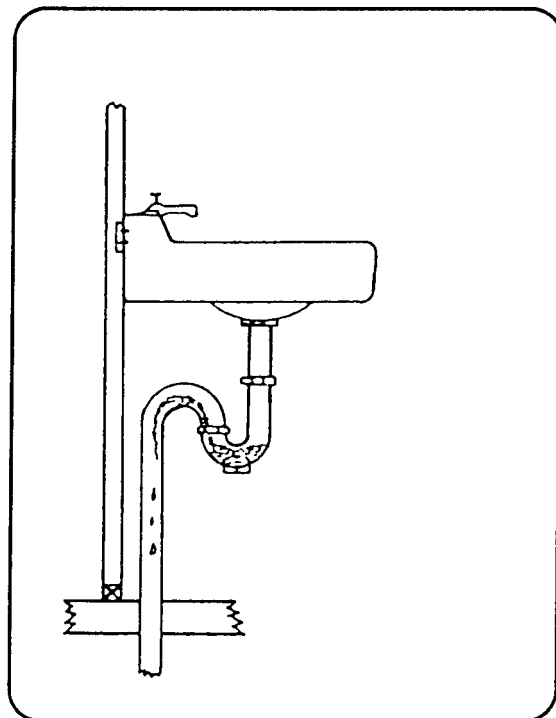

Figure 9-6. Trap seal loss by capillary action
e. *Capillary Action.* Loss of trap seal by capillary action is caused by a foreign object lodged in the trap. The object acts as a wick and carries the water from the trap over the outlet side into the waste pipe until the seal is ineffective (Figure 9-6). Rags, string, lint, and hair commonly cause this problem.